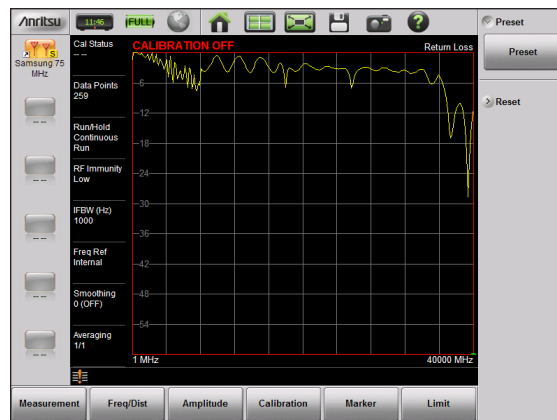

Figure 2. Preset
2. Preset the instrument to obtain a known state of operation (Figure 2).